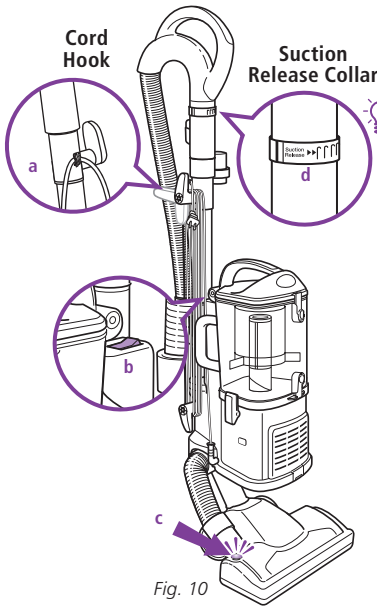

Fig. 10
- 2 Secure the power cord in the cord hook (a). (Fig. 10)
- 3 Press the On/Off switch (b) to the "I" position to vacuum bare floors (straight suction only) or to the "II" position to engage the motorized floor brush (for vacuuming carpets and rugs). (Fig. 10)
! IMPORTANT: The motorized brush indicator light (c) will illuminate green when motorized floor brush is on, or red if there is a blockage or a jam. (Fig. 10) This feature is designed to protect your Lifetime Belt that powers your motorized floor brush. See Checking for Blockages on page 15.
- 5 Due to the huge suction power of this vacuum, it may become necessary at times to adjust the suction release (d) on the handle. (Fig. 10) If the vacuum seems difficult to push or pull or if it is lifting up area rugs, adjust the suction release by rotating the collar 90° counterclockwise to open the valve. Rotate the collar clockwise to close the valve when you need high suction and for vacuuming floors.